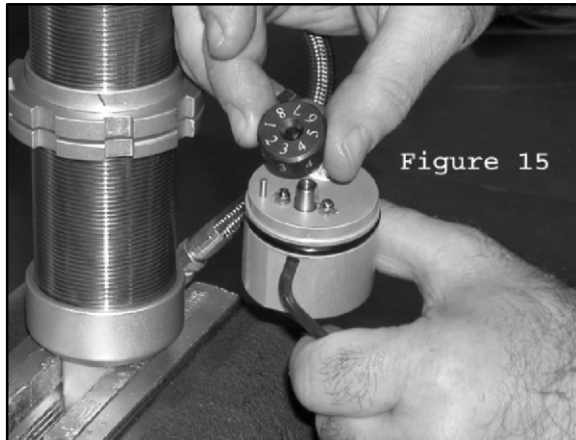

Figure 15
37. Fill the two holes that are on either side of the adjuster-drum stub with assembly grease. Insert one new spring into each hole. Place one new clicker ball in the center of each spring. Orient the #1 position of knob with the position indicator of the CD housing. (Fig. 15) Install the compression adjustment knob onto adjuster-drum stub. Apply even pressure on knob and press down completely. The clicker balls should recess down into the holes. If they do not, slowly remove the knob, re-seat the clicker balls and try again. Once knob is in position, insert a 5/32" Hex Key into the bleed hole of the CD housing. Secure knob with flat head screw using a 3/32" Hex Key. Install dust shield o-ring by stretching it over the top of the compression adjuster knob.